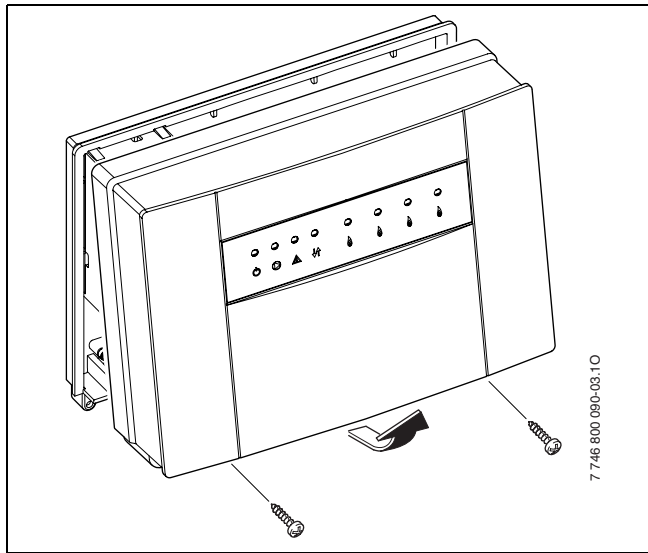

Fig. 6 Removing the cover
- ▶ Undo two screws at the bottom of the MCM10 module, pull the cover at the bottom forward and lift off upwards (→ Fig. 6).